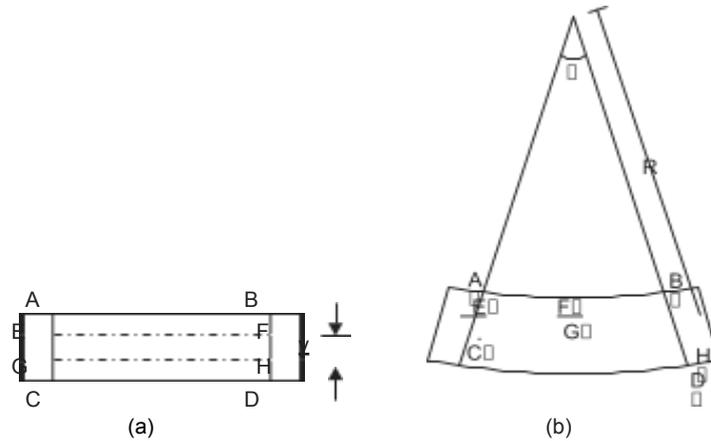

Fig. 2
- (i) *Relationship between bending stresses and radius of curvature:* Consider an elemental length  $AB$  of the beam as shown in Fig. 2(a). Let  $EF$  be the neutral layer and  $CD$  the bottom most layer. If  $GH$  is a layer at distance  $y$  from neutral layer  $EF$ , initially  $AB = EF = GH = CD$ .
Let after bending  $A, B, C, D, E, F, G$  and  $H$  take positions  $A', B', C', D', E', F', G'$  and  $H'$  respectively as shown in Fig. 2(b). Let  $R$  be the radius of curvature and  $\phi$  be the angle subtended by  $C'A'$  and  $D'B'$  at centre of radius of curvature. Then,